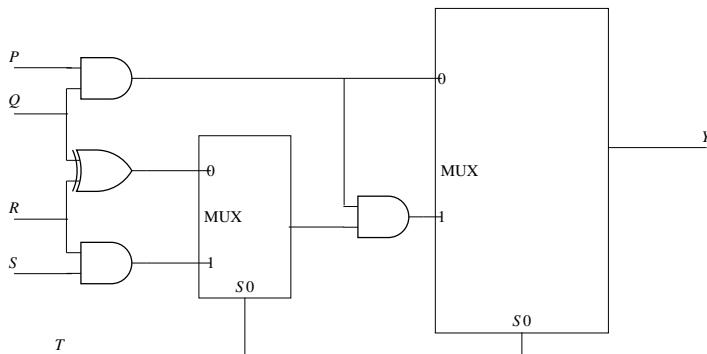

Fig. 4.11
24. The propagation delays of the XOR gate, AND gate and multiplexer (MUX) in the circuit shown in the Fig. 4.11 are 4 ns, 2 ns and 1 ns, respectively. If all the inputs P, Q, R, S and T are applied simultaneously and held constant, the maximum